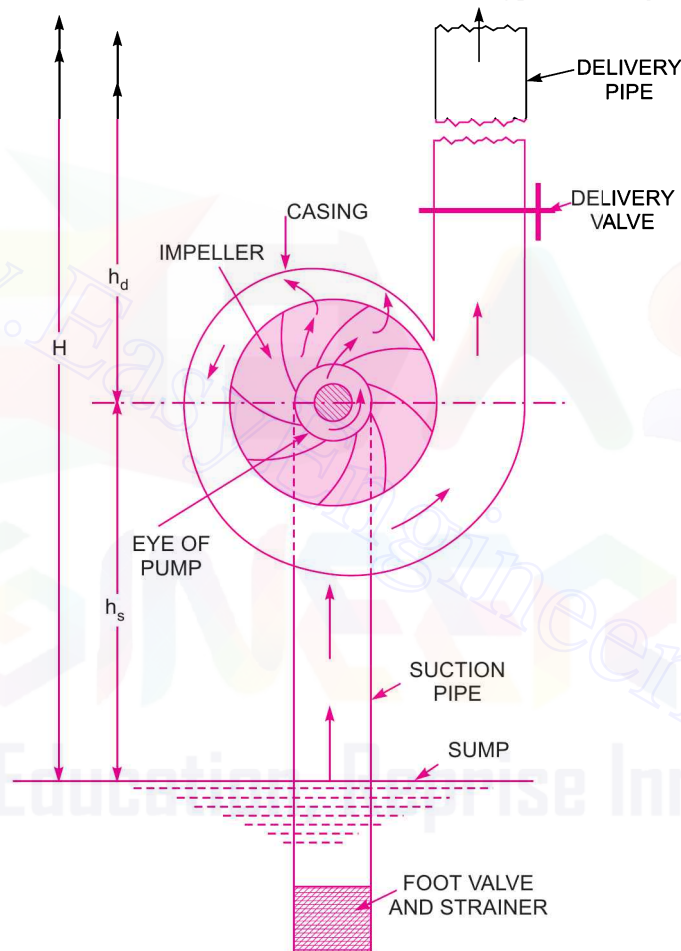

Fig. 19.1 Main parts of a centrifugal pump.
All the main parts of the centrifugal pump are shown in Fig. 19.1.
- (a) Volute casing as shown in Fig. 19.1.
(a) **Volute Casing.** Fig 19.1 shows the volute casing, which surrounds the impeller. It is of spiral type in which area of flow increases gradually. The increase in area of flow decreases the velocity of flow. The decrease in velocity increases the pressure of the water flowing through the casing. It has been observed that in case of volute casing, the efficiency of the pump increases slightly as a large amount of energy is lost due to the formation of eddies in this type of casing.
**1. Suction Head ( $h_s$ ).** It is the vertical height of the centre line of the centrifugal pump above the water surface in the tank or pump from which water is to be lifted as shown in Fig. 19.1. This height is also called suction lift and is denoted by ' $h_s$ '.